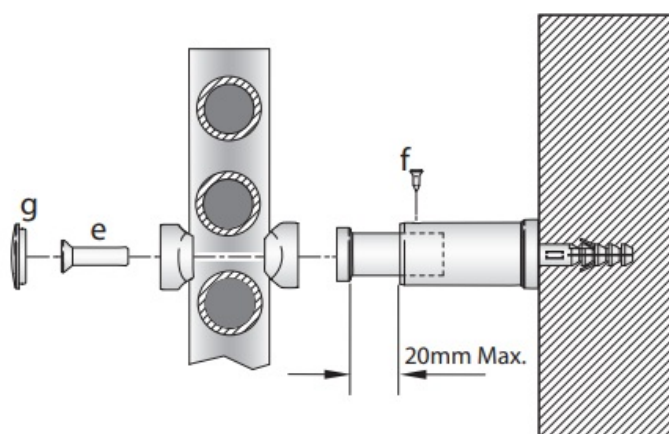

Fig. 4
6. Lift the towel rail now with the inner sleeve assembly in position, and align with the outer sleeve previously fixed to the wall. When all the inner sleeves are inserted correctly into the outer sleeves, determine the desired distance of the rail from the wall and secure in place using the fixing screw (f) – see Fig. 4.